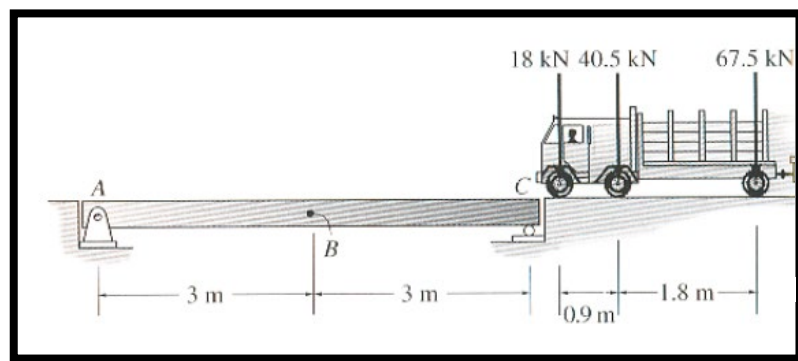

Figure A2(a)/ Rajah A2(a)
- (a) Influence lines are essential in the design of a structure where the loads move along the span. Figure A2(a) shows a bridge that will be subjected to the wheel loads of a moving truck.